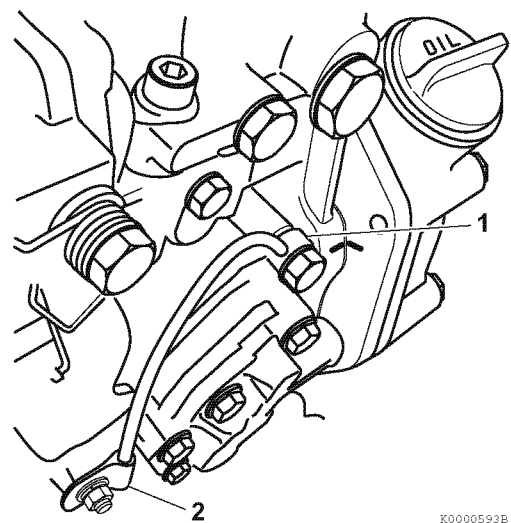

Figure 7-12
- Disconnect the lube oil line (1, **Figure 7-12**) and the clamp (2, **Figure 7-12**) from the pump.